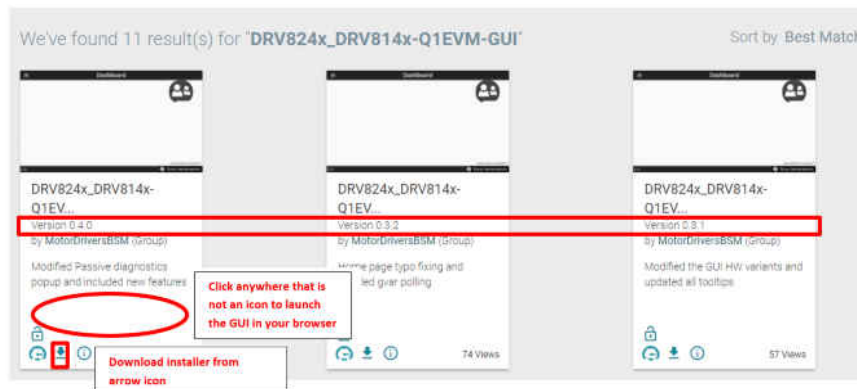

Figure 3-3. TI GUI Composer Gallery Results for Launching or Downloading Local Installer
2. When presented with the list of available GUIs, launch the latest version by clicking in the tile anywhere that is not related to an icon for downloading the installer or GUI Composer. Refer to Figure 3-3:
2. From the gallery, click the  icon in the latest version and select the installer for your operating system (Windows, Linux or Mac). Refer back to Figure 3-3 in the previous section for a visual depiction of the Gallery page.